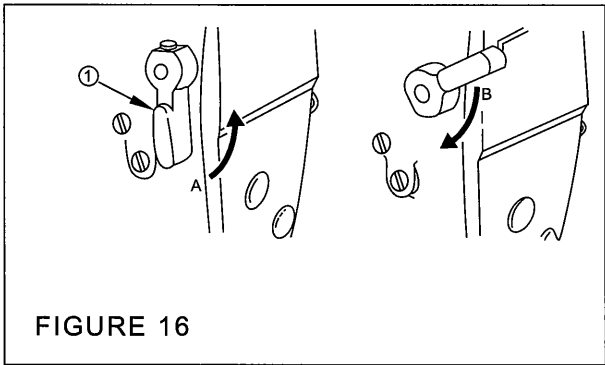

FIGURE 16
10. PRESSER FOOT LIFTER (FIGURE 16)